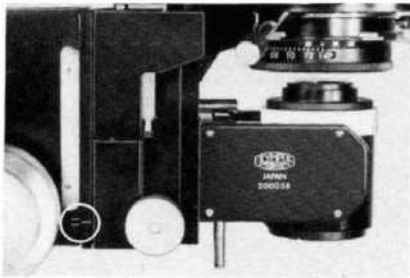

Fig. 14
- 1) Operate the fine adjustment knob to bring the fine adjustment indicator line to the center of the fine adjustment range. (Fig. 14)